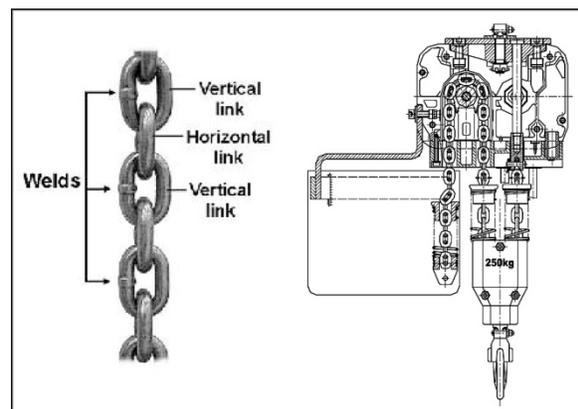

Figure 14
4. Using a C-link, connect the new chain to the old chain. Be sure vertical link welds face away from load sprocket (see Figure 14).
Vertical and horizontal are determined from the relationship with the load sprocket. Vertical links will be guided by the center slit in the load sprocket. Horizontal links will engage in the oval pockets on the sprocket. See Figure 14.